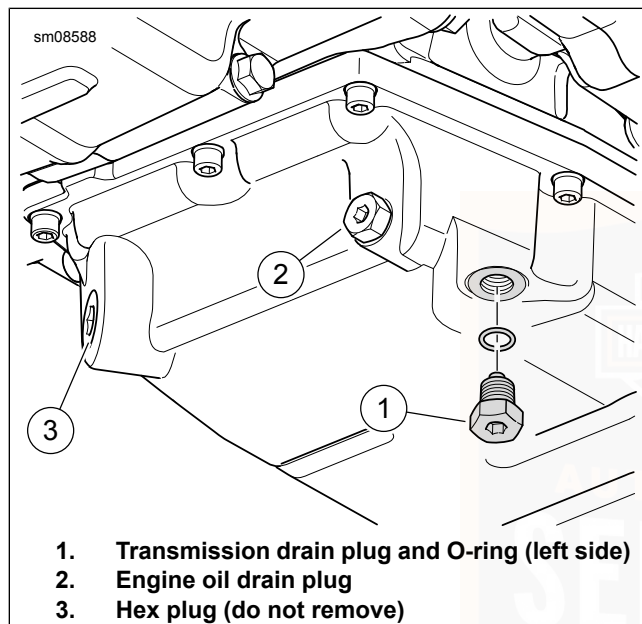

Figure 89. Transmission Drain
2. See Figure 89. Remove transmission drain plug. Drain transmission.